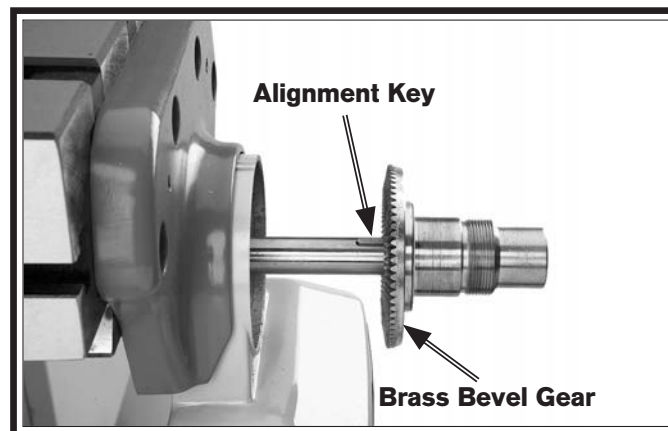

Figure 78. Example of power feed brass gear and leadscrew alignment key.
4. Remove brass bevel gear from leadscrew, then remove leadscrew alignment key (see **Figure 78**).